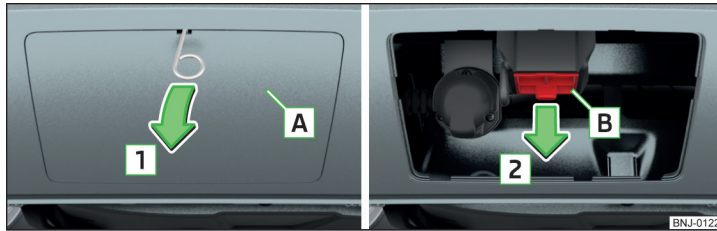

Fig. 246 Removing the cap: on the rear bumper / for the receiving shaft
- Remove the cover cap **A** in the direction of arrow **1** » Fig. 246 using the on-board tool clamp for pulling off the wheel trims.
- › Insert the cover **B** » Fig. 246 on page 195 in the opposite direction to arrow **2**.
- › Fix the cap **A** » Fig. 246 on page 195 aligning it with “check mark” in the lower bumper area.